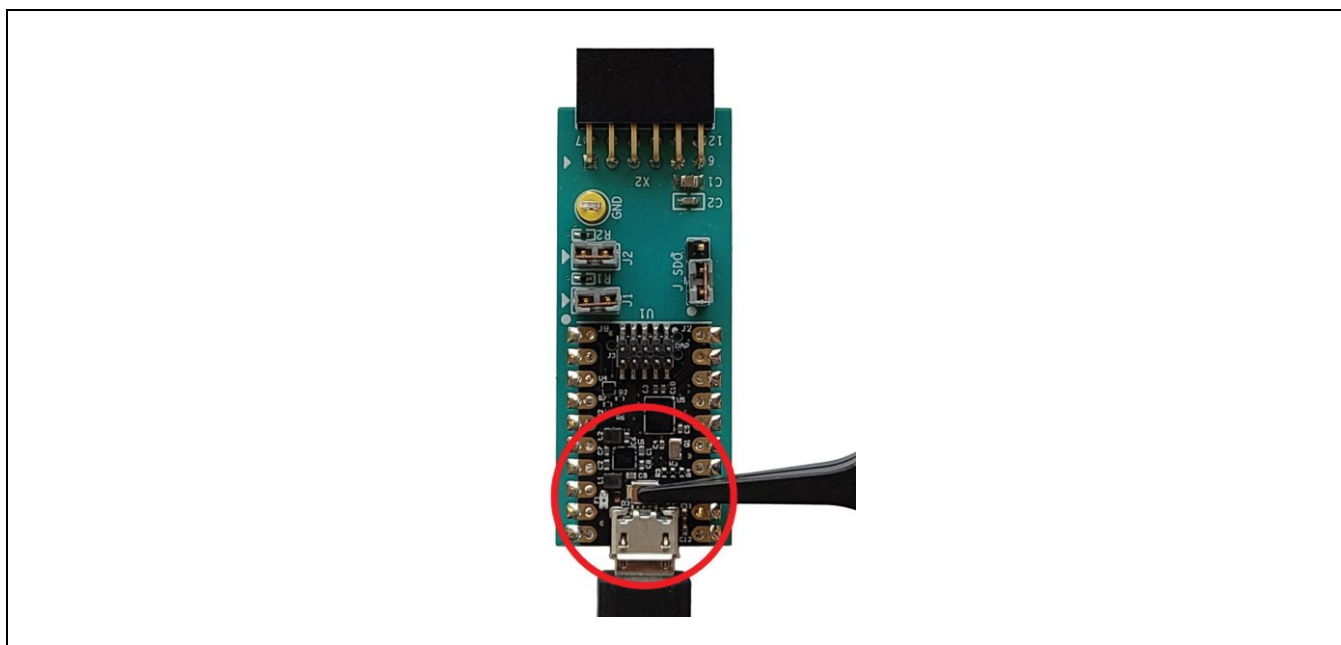

Figure 9. Enter Maintenance Mode
- 1) Put the board in maintenance mode by holding the button while the board is connecting to the computer. It can be easier to hold the button while inserting the USB cable at the computer end rather than the micro-USB connector end (see Figure 9).